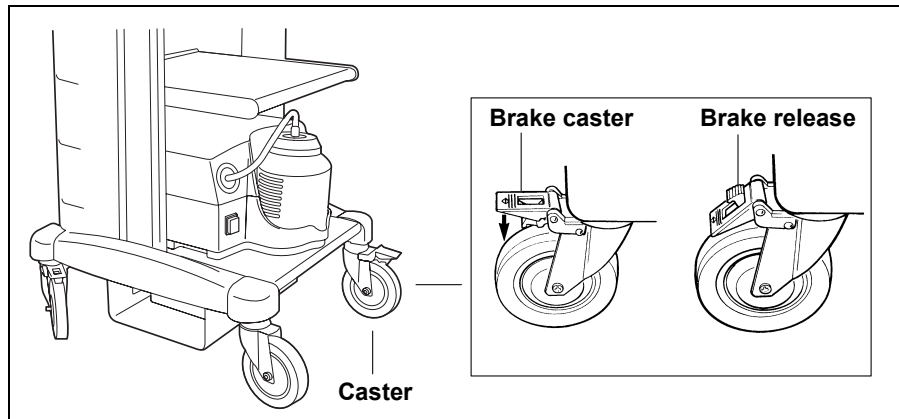

Figure 3.1
1. Place the mobile workstation on a level surface. Lock the caster brakes as shown in Figure 3.1.